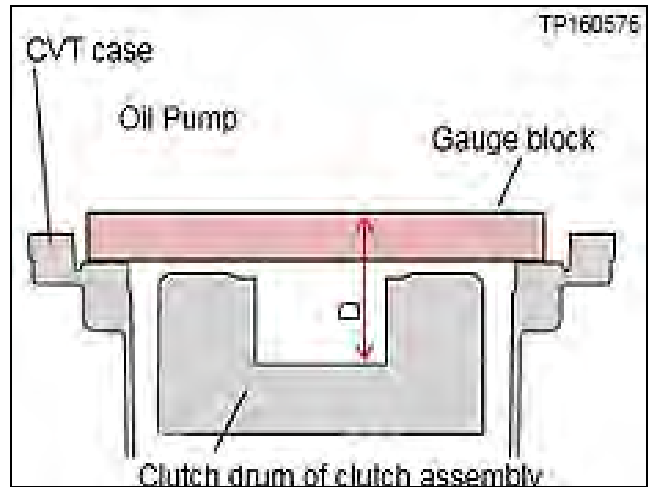

Figure 2G
4. Calculate the average (D) clutch assembly bore depth (Figure 2G) as follows: